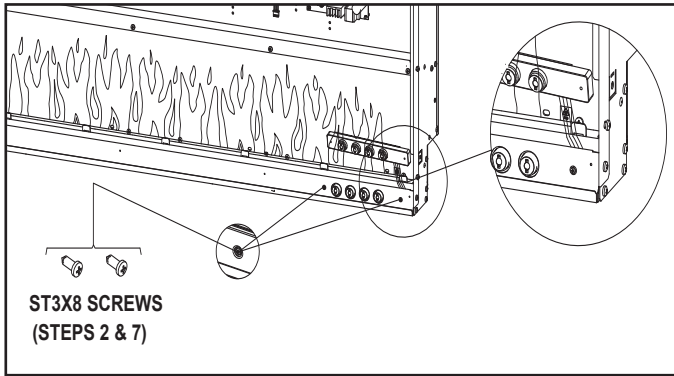

Figure 11 Touch Button Assembly
2. Remove the front two (2) ST3X8 screws on the Touch Button Assembly..
3. Unplug the touch button wire connector and remove the Touch Button Assembly. See Figure 11.